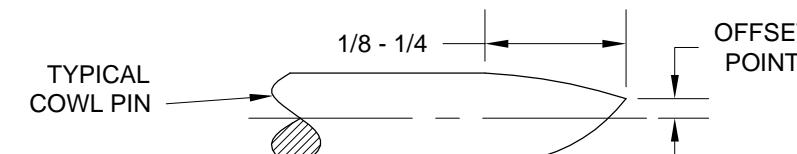

FIGURE 5: SHAPING THE COWL PIN ENDS
Step 5: Grind the ends of the cowl pins created in Step 1, Step 2 and Step 3 as shown in Figure 5. Offset the point.